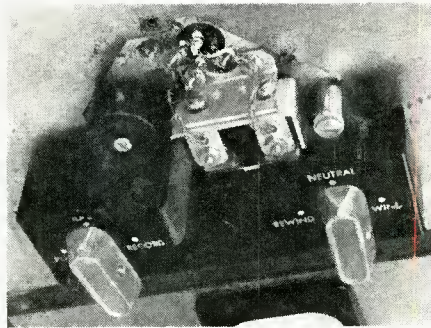
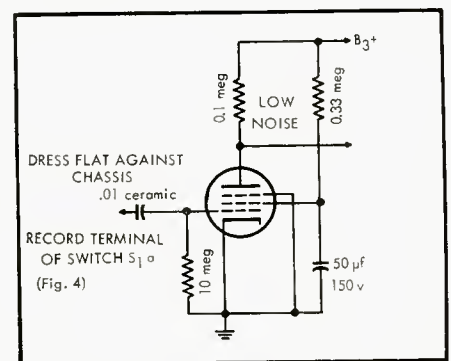

Fig. 13. Silicon-steel shield warps hum field near record-play head sufficiently to account for a hum reduction of approximately 6 db.
Fig. 14. Alternative input circuit—abandoned because of increased distortion.
mum. *Figure 13* is a closeup of the shield employed. It consists of a thin piece of silicon steel about  $\frac{3}{4}$  in. wide and 2 in. long after being bent double. The shield is alongside the playback head and clamps like a hairpin onto the bracket that holds the heads and guides the tape. The silicon steel is an I-plate from a power transformer—the same transformer that was converted into a bulk craser by removing the I-plates and facing the E plates one way.
12. *Input Grid Circuit.* The  $V_1$  input grid circuit shown in *Fig. 4* is different from the one originally contemplated which is shown in *Fig. 14*. The advantage of using the circuit in *Fig. 14* is that the hum-bucking pot has greater effect, permitting another 2 or 3 db of hum reduction. The disadvantage which led to its rejection, however, is that it produces considerably more distortion. On the other hand, this difference in distortion may be considered academic by some, wherefore it is felt that the discarded circuit merits mention.
As pointed out in the section on specifications, the circuit of *Fig. 4* can accommodate as much as 50 mv input with less than 1 per cent IM distortion and as much as 100 mv with only 1.5 per cent IM. However, the circuit of *Fig. 13* produces 2 per cent IM at only 12 mv input, 3 per cent at 15 mv, 4 per cent at 20 mv, 8 per cent at 40 mv, and so on up. On the other hand, this circuit produces but 1.4 per cent IM at 10 mv, and at 5 mv distortion is down to 0.3 per cent. Thus, within the normal range of voltage output from a playback head, which is usually below 5 mv, the circuit of *Fig. 14* would produce imperceptible distortion. Even on peaks, where amplifier IM distortion might reach 1.5 or 2 per cent, this amount would be relatively small compared with 8 per cent or more IM from the tape itself.
Yet, despite its potentialities for less hum, the circuit of *Fig. 14* was abandoned because it crowds the margin of safety too much with respect to distortion. Although it can doubtless provide satisfactory results with regular tape, trouble may arise when using high-output tape, which results in greater voltage output from the head. Moreover, it is quite possible that continued advances in the art of tape manufacture will produce tapes with substantially higher output than now available.
In going to the input circuit of  $V_1$ , careful consideration had to be given to the value of the cathode resistor,  $R_2$ . Too high a value not only reduces gain but, more important, lessens the effect of the hum-bucking pot. As already indicated in the discussion concerning *Fig. 14*, hum-bucking effect was greatest when cathode resistance was smallest; i.e., zero.